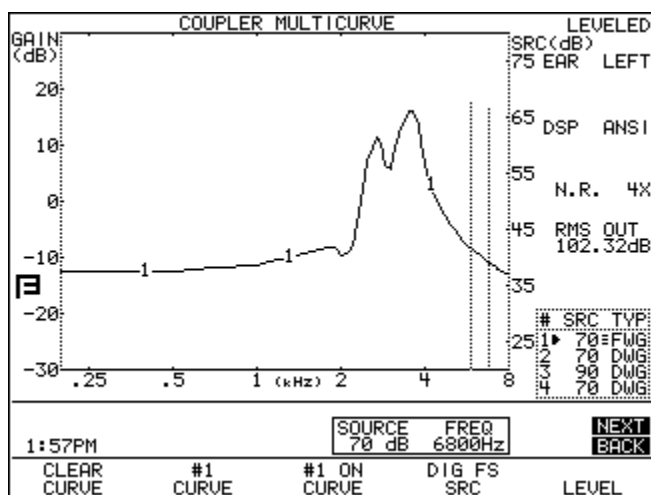

Figure 3.8.10B—Frequency-shift test to present a two tone signal.
5. Press [START/STOP] to start the measurement. See Figure 3.8.10B. (Please note that the hearing aid might only amplify the two-tone signal as a single peak.)